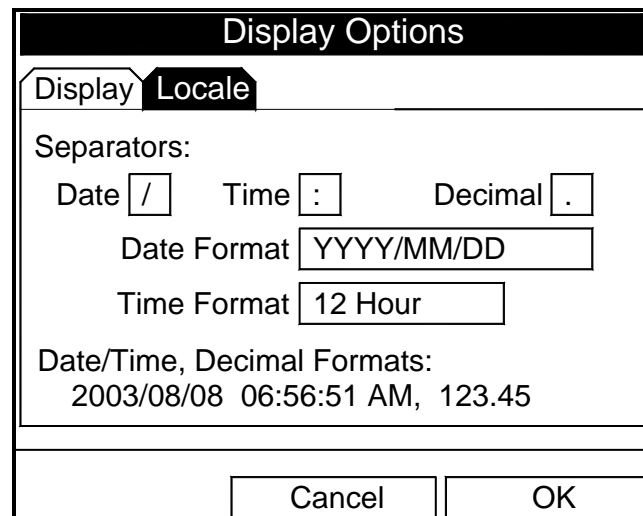

Figure 4-3: Display Options Window - Locale Tab
1. From the Meter menu, scroll to the Locale tab and press [ENTER]. The Display Options window opens on the Locale tab, as shown in Figure 4-3 below. To step through each parameter, press the [▼] key.